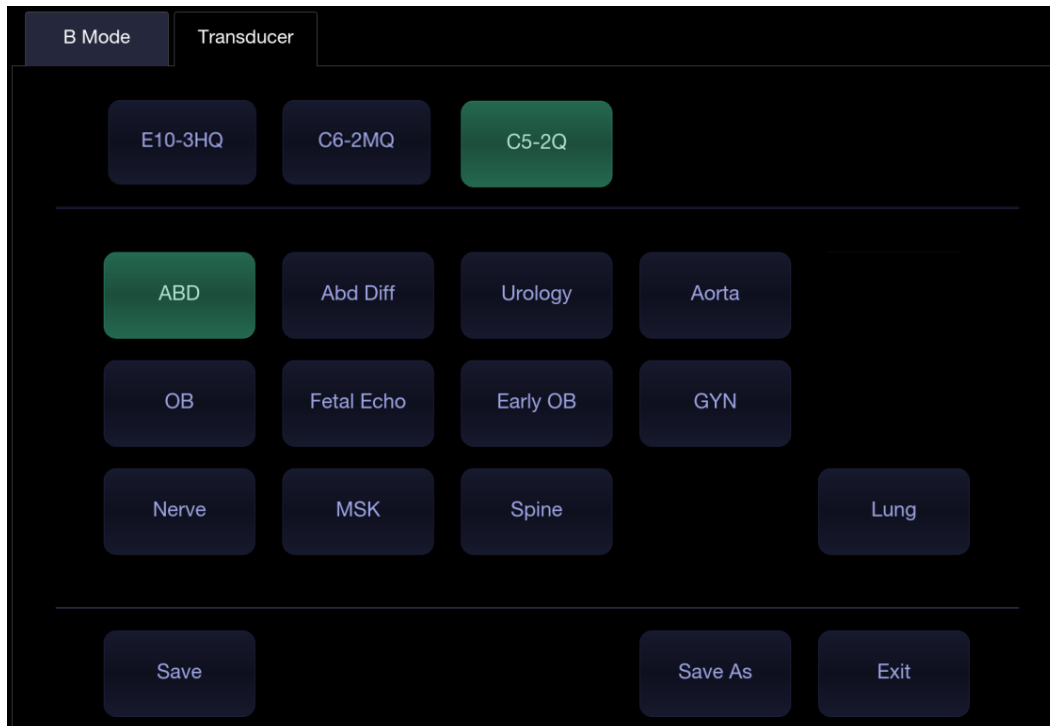

Figure 10-2 Example Preset Screen
**The Preset Function:** The preset function is invoked by pressing the **<Transducer>** key on the console. See figure 10-2 for an example Transducer touch screen. The currently active transducer is shown at the top of the touch screen. Below it are all the presets associated with that transducer. Pressing any preset button selects that preset, recalling its parameters for system use.